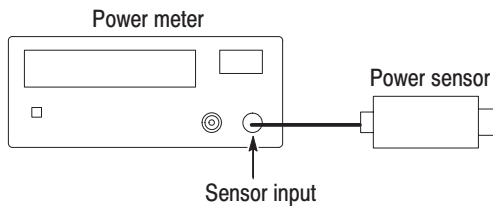

Figure 4-8: Initial hookup for setting up the power meter and sensor
- a. Connect the power meter and the power sensor. See Figure 4-8 below.